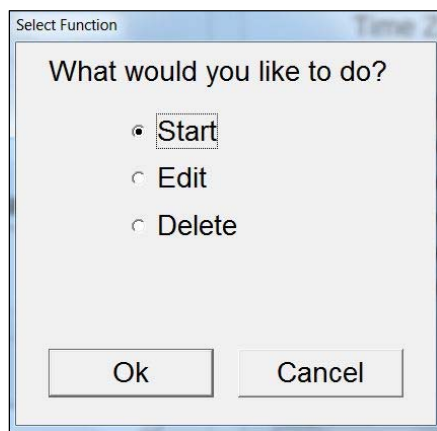

Figure 10: Select “Start,” Edit,” or “Delete”
5. If you chose “Select an Existing Format” (from step #3 above), you have the option to “start” grading labels, “edit” the chosen template, or “delete” the chosen template (Figure 10).